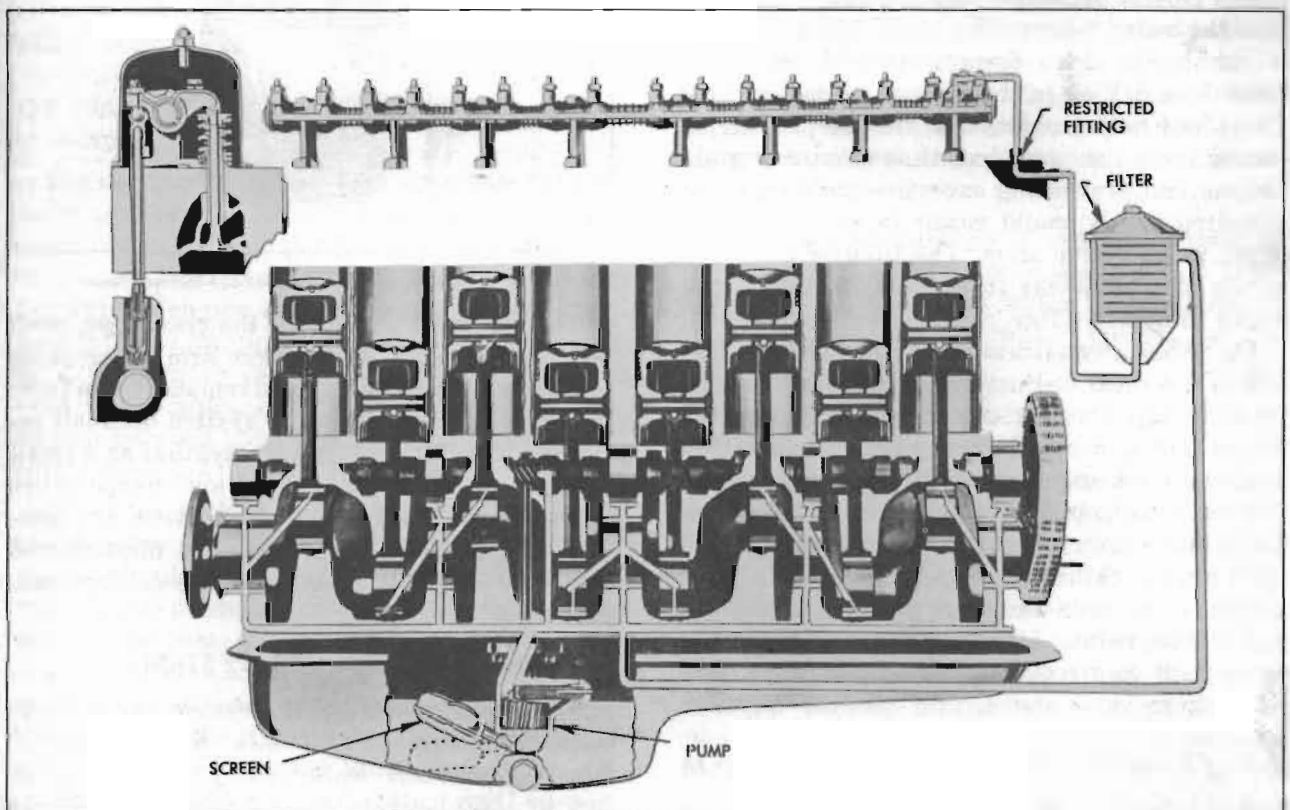

Figure 2-7—Engine Lubrication System
The engine lubrication system is of the force-feed type in which oil is supplied under full pressure to crankshaft, connecting rod, and camshaft bearings, and is supplied under controlled volume to the rocker arm bearings, push rods, and valve lifters. All other moving parts are lubricated by gravity flow or splash. See figure 2-7.
**Oil Pump Screen.** The oil pump inlet is equipped with a floating screen which is hinged so that it follows the oil level under all conditions, thus drawing clean oil from near the top above any sediment which might collect at bottom of crankcase. See figure 2-7. Should the oil pump screen become clogged due to abnormally thick oil, sludge, or other cause, suction of the pump will cause the screen to collapse at its center and open a valve that will permit oil to be drawn into the pump.
**Main Oil Gallery.** Oil under regulated pressure leaves the oil pump through a drilled passage in pump body, which connects to the main oil gallery in right side of crankcase. The main oil gallery runs the full length of crankcase to distribute oil through branch passages to all parts of the engine. See figure 2-7.
**Crankshaft, Rods, and Pistons.** Branch passages in crankcase carry oil from main oil gallery to the crankshaft bearings. Holes drilled in the crankshaft carry oil to the connecting rod bearings. See figure 2-7. Pistons and cylinder walls are lubricated by oil forced through a small hole in the lower end of each connecting rod, which registers with the hole in crankshaft once in each revolution. Piston pins are lubricated by splash.
**Camshaft and Timing Chain.** Branch passages in crankcase carry oil from main oil gallery to the camshaft bearings. The timing chain and sprockets are supplied with oil through a small passage which connects the main oil gallery with a recess and drilled hole in the camshaft thrust plate. The hole through the thrust plate is blocked by the camshaft sprocket hub except when a slot in hub registers with the hole once in every revolution of the camshaft, at which time oil is thrown into the inside area of sprocket. Three holes in the camshaft sprocket allow oil to pass to the timing chain. See figure 2-7.